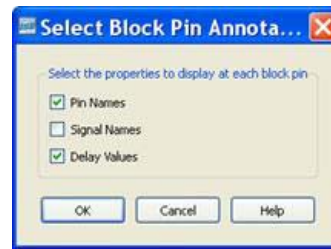

Figure 6-9: Select Block Pin Annotation Button
3. In the following dialog box, check the **Delay Values** option. Check the **Pin Names** option as shown in Figure 6-9.